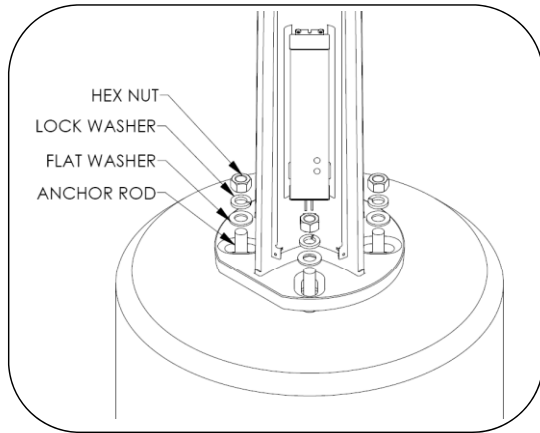

Fig.7 – Install pole and anchors
5. Install washer, lock washer and hex nut as shown in Fig. 7.